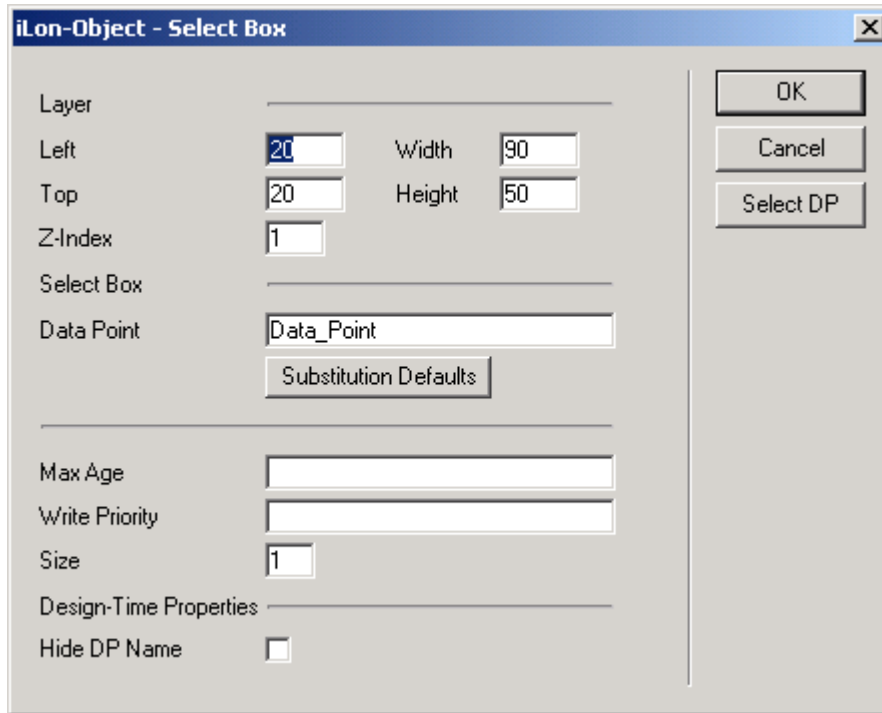

Figure 13.39 Select Box Dialog
1. Open a draft of a Web page, click the *iLON* button, and then select **Select Box**. An icon is inserted on the Web page where the select box will be displayed, and the dialog shown in Figure 13.39 opens.